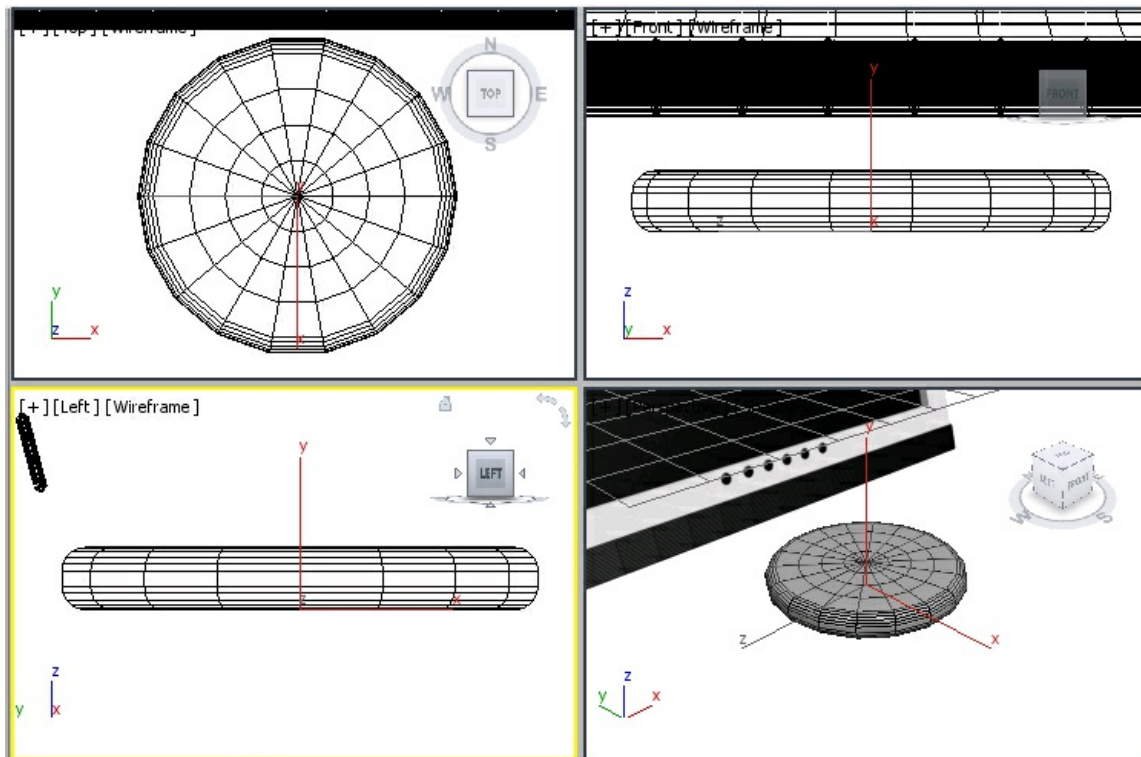

Figure 8-143 The support geometry zoomed in viewports
7. Make sure that *support* is selected. Next, choose the **Zoom Extents All Selected** tool; *support* is zoomed in the viewports, as shown in Figure 8-143.